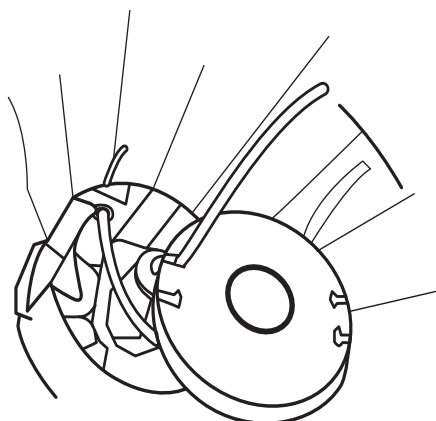

Fig. 27
3. Take the line wheel (5) off, then remove the rest of the line (Fig. 27).